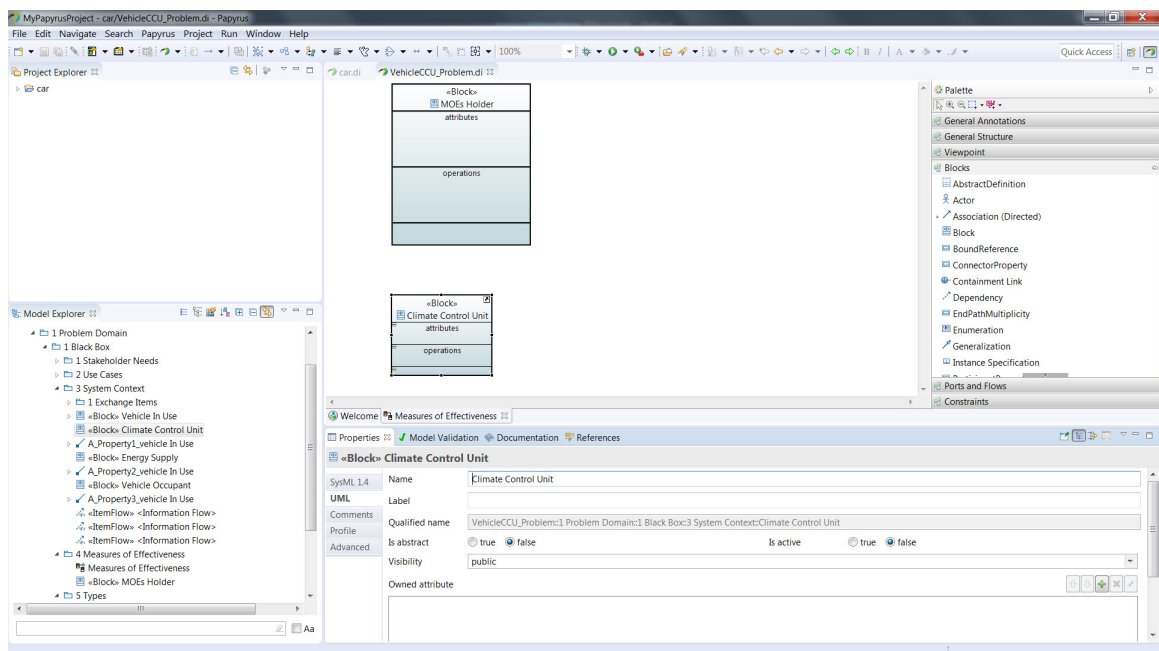

Figure 81: *Climate Control Unit* block in *Measures of Effectiveness* bdd.
- Now we need to make this *MOEs Holder* block a supertype of the *Climate Control Unit* block. In the *Model Explorer* window expand the *3 Systems Context* package. Click and Drag the *Climate Control Unit* block to the *Measures of Effectiveness* block definition diagram (bdd) in the main window and position it underneath the *MOEs Holder* block (figure 81).